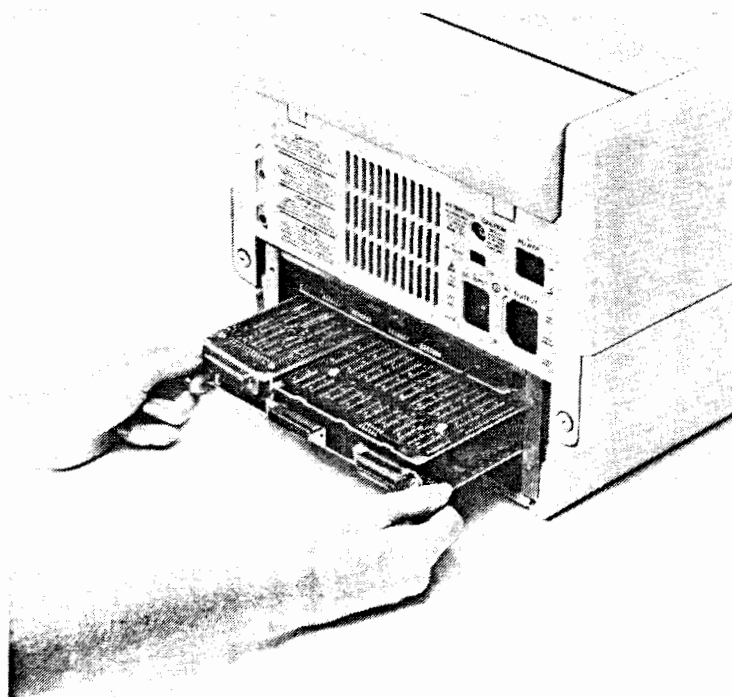

Figure 8-5. Removing PCA from Card Cage
3. Remove the PCA by pushing outward on the two extractors (to free the board from the front plane edge connector) and then carefully slide the PCA out of the card cage (figure 8-5). Note that in the case of the Mezzanine Memory and/or Mezzanine Datacomm PCAs the Processor PCA must be removed from the card cage first and then the mezzanine boards removed from the Processor PCA.